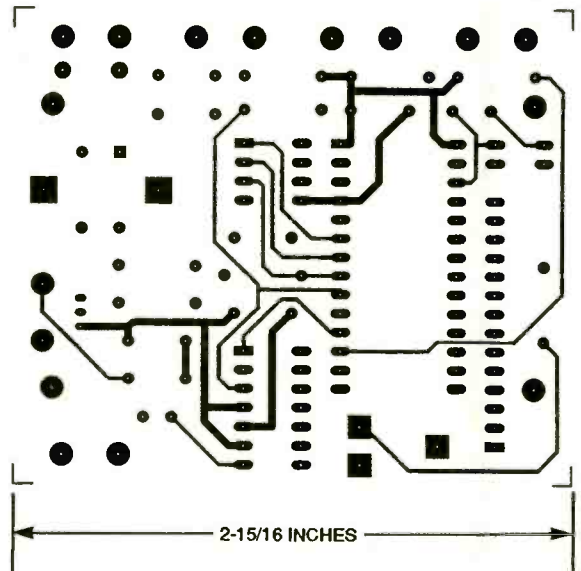

Fig. 3. Here's the component side of the DTMF Decoder/Logger's PC board.
**Construction.** The author's prototype for the DTMF Decoder/Logger was built on a double-sided printed-circuit board measuring just 2½ × 3 inches. A pre-etched and drilled PC board can be obtained from the source mentioned in the Parts List, or you could make your own using the templates shown in Fig. 2 and Fig. 3. Of course, the circuit can also be built
Identify the component side of the board (it has the pattern shown in Fig. 3), and start by soldering in IC sockets for U1, U2, and U3 (but don't insert the ICs yet). Mount U4 directly to the board, being very careful to avoid solder bridges between the pads, which are very close together.